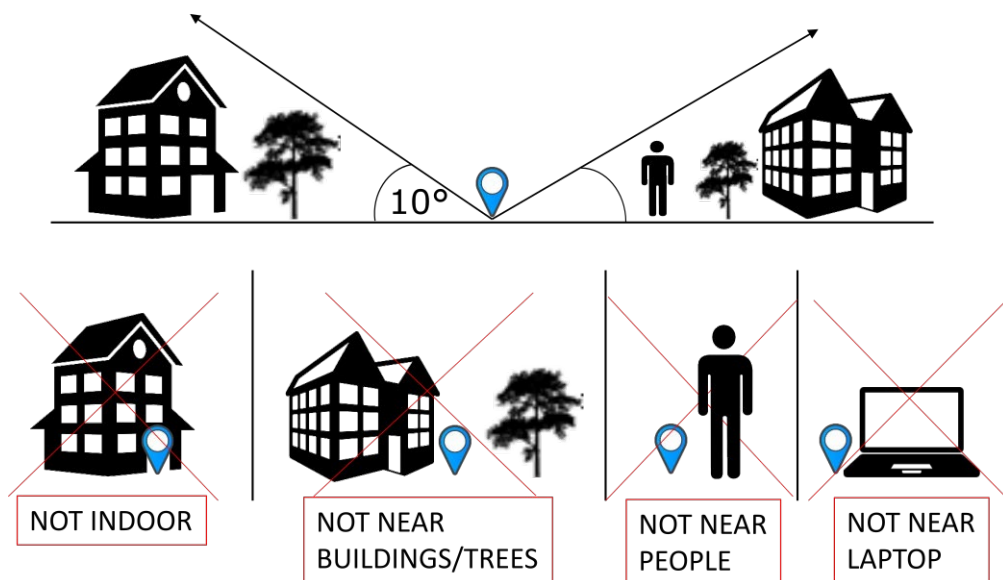

Figure 32: Reference Station placement guideline
- Please connect the GNSS antenna with the marked SMA connector to the Reference Station. The GNSS antenna must stay outside with open-sky environment (see Figure 32).
Recommendation: The GNSS antenna should be fixed mounted on position outside with best possible satellite visibility (see Figure 32). A recommended place would be the roof of a high building or similar places. The RTK correction data of the Reference Station are highly accurate for rovers within 15 km distance from rover (MS-RTK module) to Reference Station. A common way is to fix the Reference Station on a location where the user can calibrate the position once a time and don't change the position again.